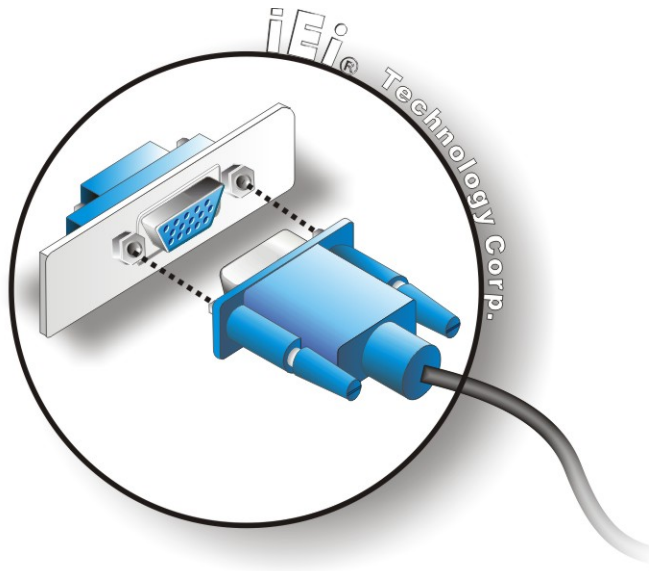

Figure 5-16: VGA Connector
Step 3: Insert the VGA connector. Once the connectors are properly aligned with the insert the male connector from the VGA screen into the female connector on the SPCIE-3600AM2. See **Figure 5-16**.